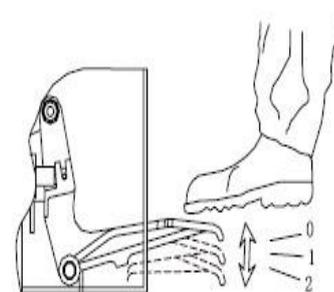
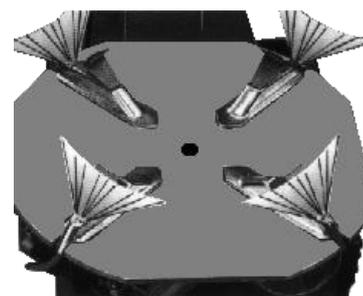

Fig 13
Fig 14
- Press Rapid Tire Inflation Pedal to the middle position (Fig 13, position 1), the inflating head should give air.
- Press Rapid Tire Inflation Pedal all the way down (Fig 13, position 2), a strong air blast should come from the holes in the four jaws' locking sliders. (Fig 14)